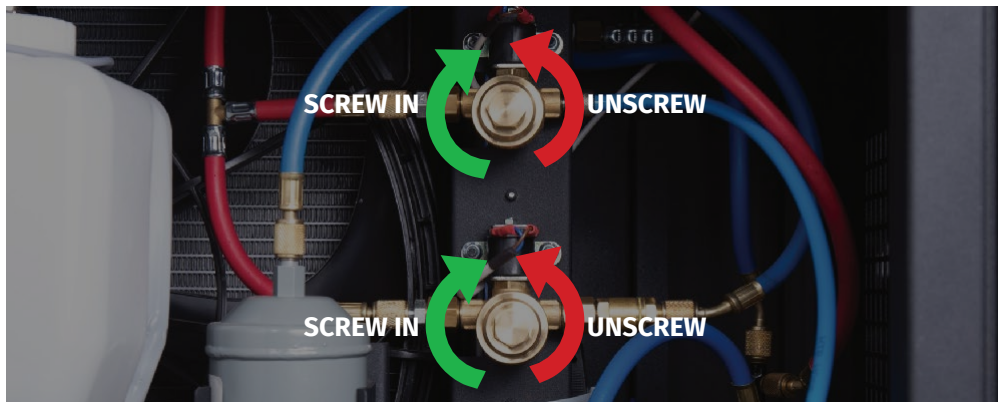

Figure 41. Direction of the cover rotation when replacing filter MS0102
- every forth replacement of the left filter element MS0101 should be followed by replacement of both filter elements MS0102 (Fig.41);